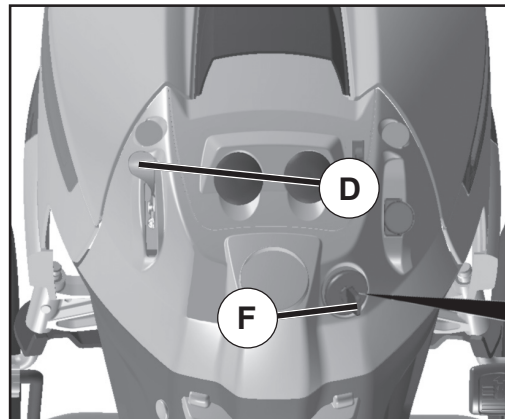

Fig. 16
TO USE THROTTLE CONTROL (D) (See Fig. 16)